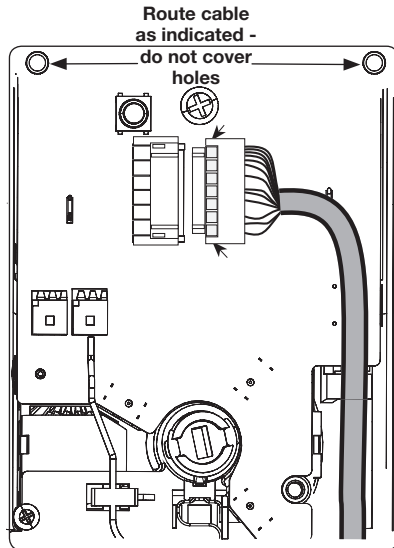

Figure 6A
6. Attach cable assembly to the inside escutcheon printed circuit board (PCB) by lining up notches on top of cable connector to slots on PCB connector (Fig. 6A & 6B).
Press connector in firmly using thumbs until completely seated (properly seated position indicated by arrows on PCB as in Fig. 6A and 6B).
Use care when assembling to ensure that the cable lies against the back recessed area of the inside escutcheon (Fig. 6A).
Position and bend cable, as shown in Fig. 6A to prevent binding when installing the escutcheon over the mounting plate.